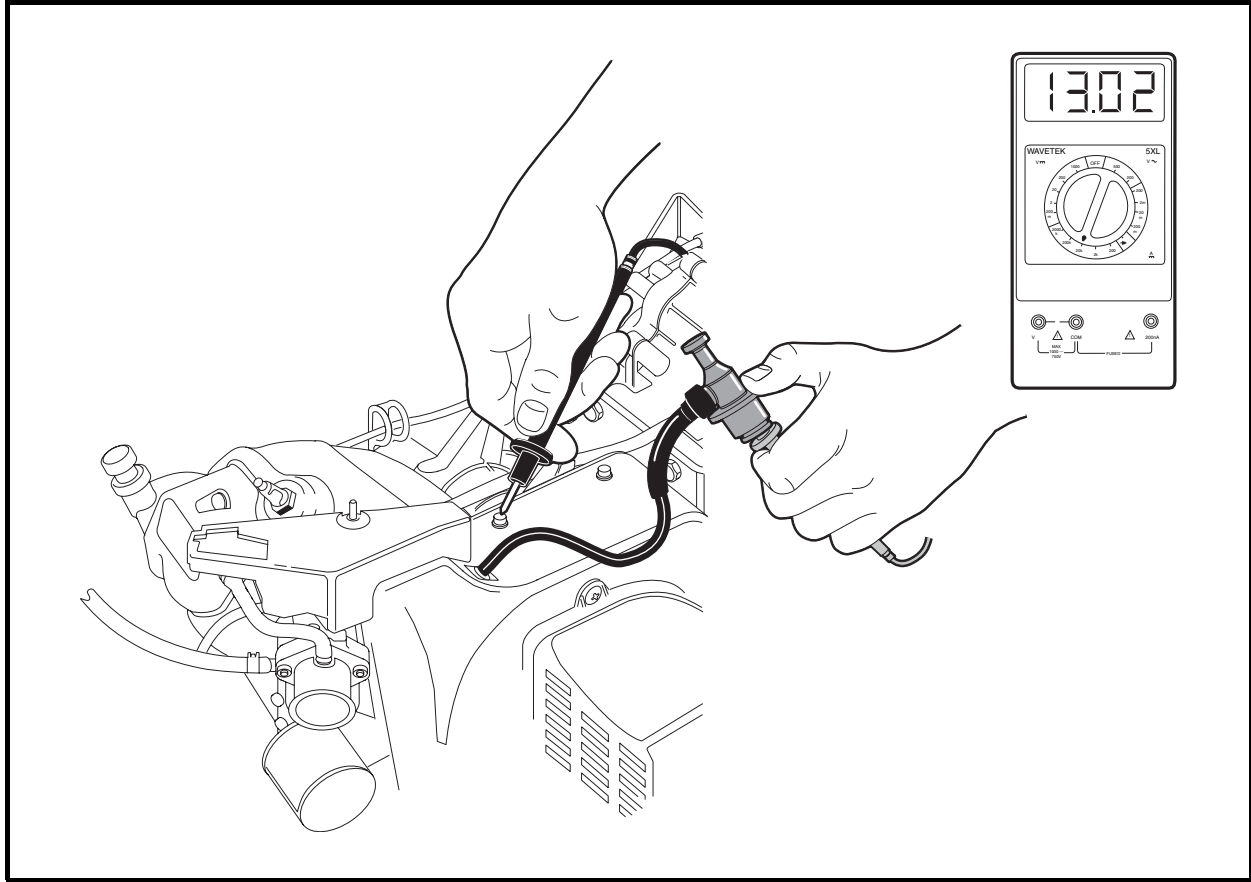

Figure 11-25 Secondary Coil Test – In Vehicle Test
- 4.1. Place the red (+) probe of the meter into the end of the spark plug cap that normally connects to the spark plug and place the black (–) probe on a clean unpainted surface of the engine or frame (**Figure 11-25, Page 11-24**).